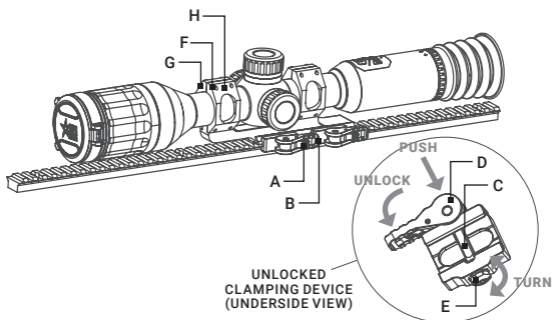

FIGURE 2-7. INSTALLATION WITH QUICK RELEASE MOUNT
You can mount the Horus scope on a Picatinny/Weaver rail of weapon using optional quick release (QR) mount (Figure 2-7).